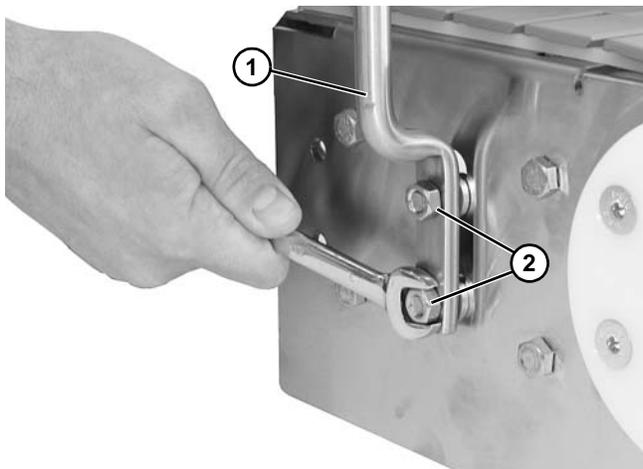

Figure 24
2. Attach the offset guide posts (**Figure 24, item 1**) to the conveyor with hex nuts (**Figure 24, item 2**). Hand tighten only at this time.